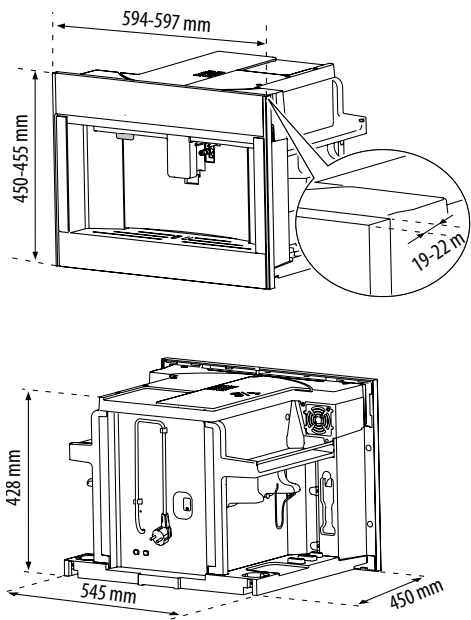

FIG. 2 Placement of guides on the cabinet sides.
- Position the rails on the sides of the cabinet as shown in the figure 2. Fix with the screws provided, then extract them completely.